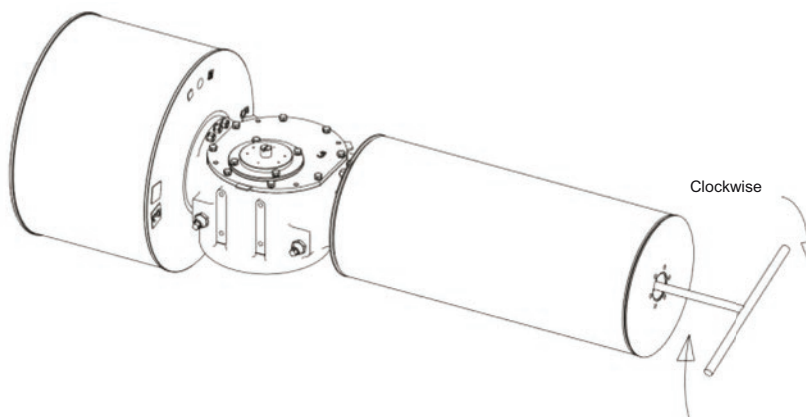

Figure 26
4. Rotate the special tool clockwise in the direction show in Figure 26 to combine the spring rod with the transmission joint. Refer to Table 13 for the torque.